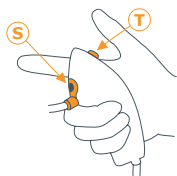

Figure 2:
- 6 Hold Ventrain in the equilibration position as shown in Figure 2: no oxygen is flowing into the lungs and almost no gas is sucked out.
- 12** Make sure the chest is able to make excursions upwards and downwards. Adjust inspiration and expiration times based on closely observation of the chest excursions of the patient. Ensure inspiration and expiration volumes are in balance. In case of any doubt regarding lung pressure, use the equilibration position, as shown in Figure 2, for at least 5 seconds.